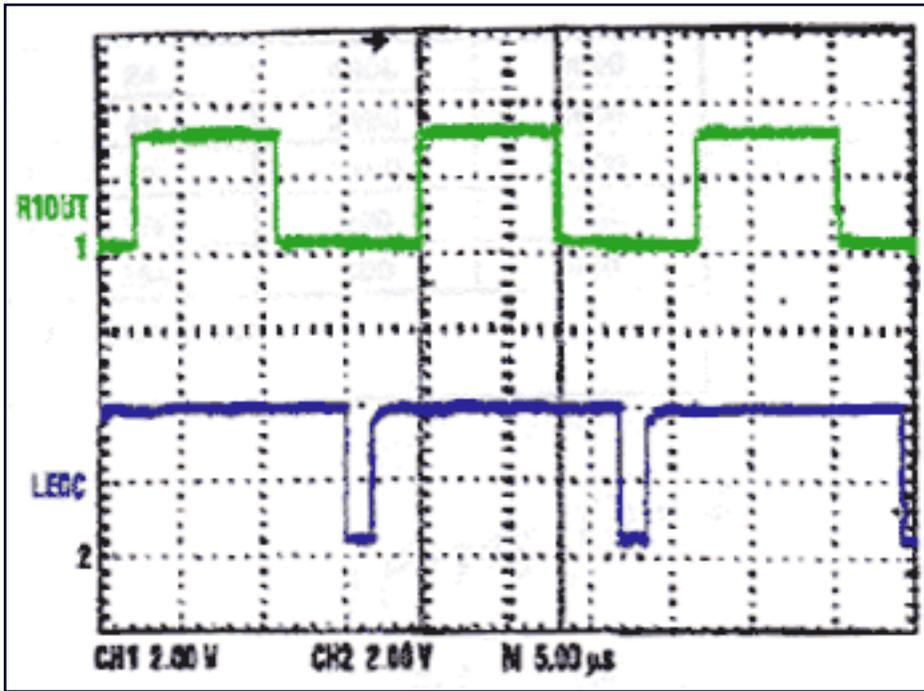

Figure 4. These waveforms show the Figure 1 circuit converting NRZ logic signals (top trace) to IrDA logic signals at 115kbps.
**Figure 4** shows the conversion of standard NRZ logic signals (coming from IC1's TTL-compatible R1OUT terminal) to IrDA RZ logic signals at 115kbps. IC2 provides the baudx16 clock.